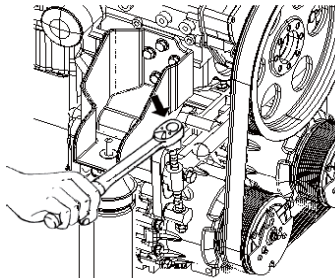

Figure 3 Tension balancer bolt/tensioning
- Turn the tension balancer bolt counter clockwise to remove the belt. (Figure 3)